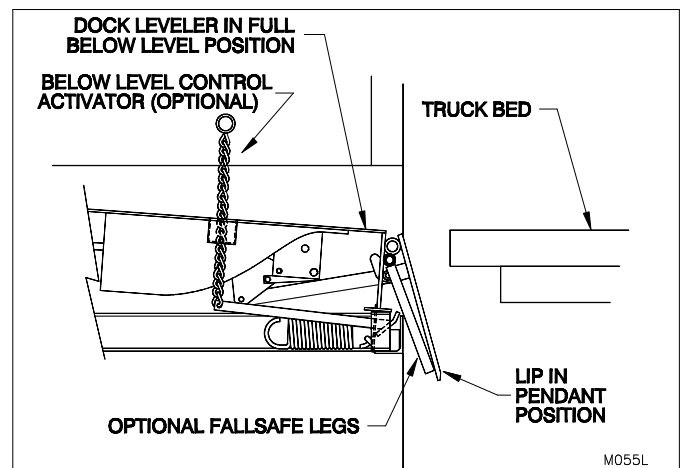

Figure 27: Below Level End Loads
2. Pull the optional Below Level Control activator. Walk forward on the dock leveler while continuing to pull the handle until your weight forces the dock leveler to lower to the fully below dock level position. (See Figure 27: Below Level End Loads on page 17)